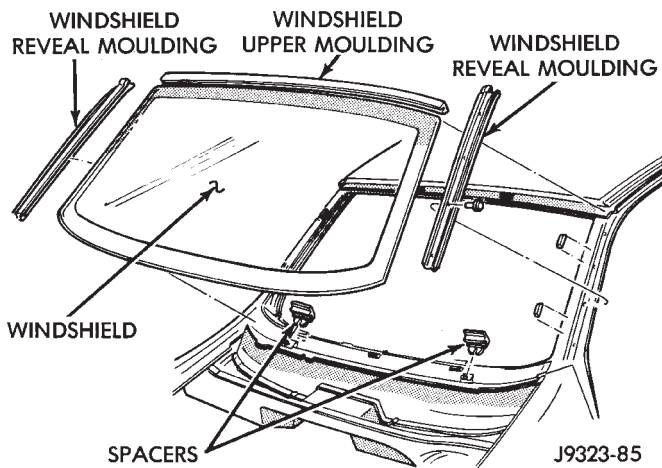

Fig. 3 Windshield Moldings
(3) Remove windshield moldings (Fig. 3). Pull outward on molding at the bottom of A-pillars using pliers.